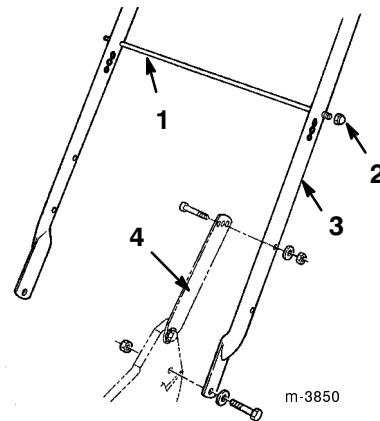

Figure 2
2. Secure the handle latches to the handle with two 5/16-18 x 1-1/2 in. cap screws, washers, and nylon insert locknuts (Fig. 2).
- Slide the bag support rod through the top mounting holes in the handle and secure each end with a cap locknut (Fig. 2).